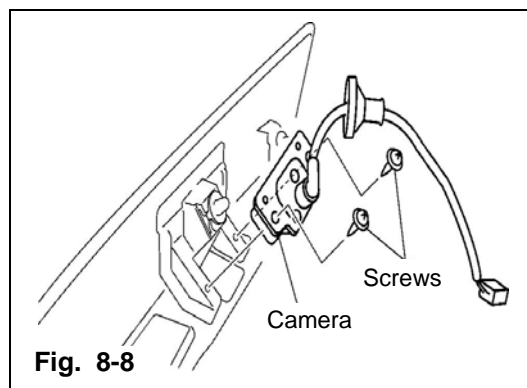

Fig. 8-8
- a) Insert camera into cut out as shown. **(Fig. 8-8)**